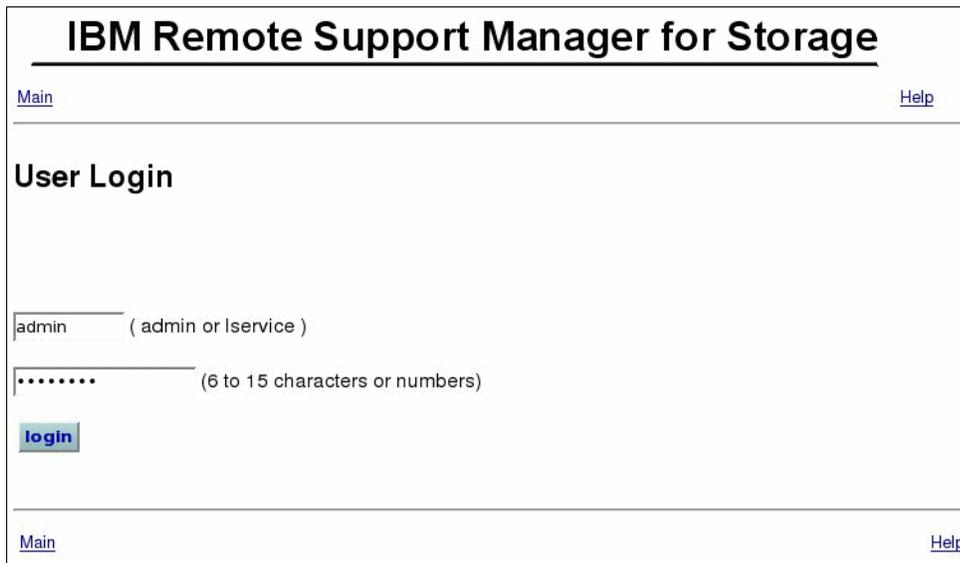

Figure 6-60 RSM logon window
2. Enter the user name and password of the RSM administrator. This account is named admin and the password was defined during the installation of RSM. See Figure 6-60.